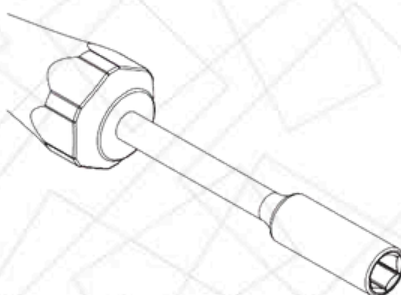
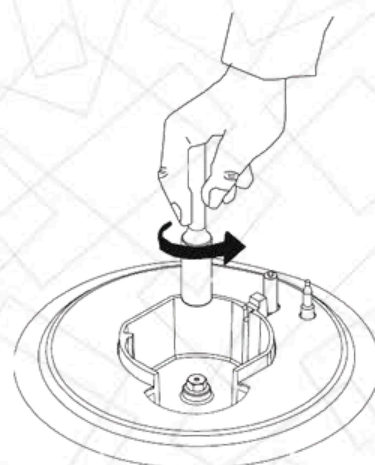

Fig2
Fig3
2. Using a 7 mm socket wrench, as shown in Figure 2, unscrew and remove the injector by turning it (see Figure 3).